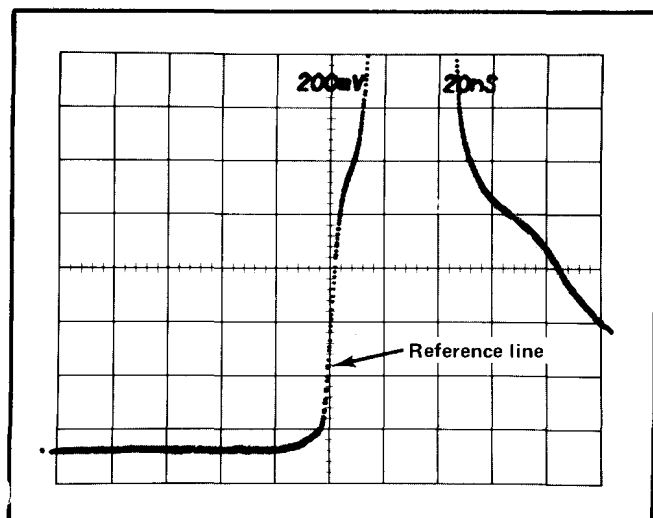

Fig. 5-4. TIME-DISTANCE Dial accuracy check. A $1\ \mu\text{s}$ period marker is shown.
c. Adjust the FINE control to place a marker on graticule line 5. See Fig. 5-4 for this waveform.